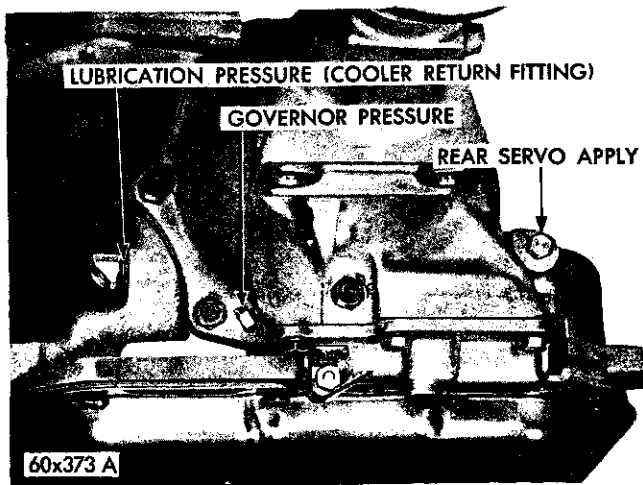

Fig. 27—Pressure Test Locations (Rear End of Case)
(1) Install a "tee" fitting between the cooler return line fitting and fitting hole in the transmission case at rear of the left side of the transmission case (Fig. 27). Connect a 0-100 psi pressure gauge, Tool C-3292 to the "tee" fitting.
(2) At 1,000 engine rpm, with the throttle closed and the transmission in direct, the lubrication pressure should be 5-15 psi. Lubrication pressure will be approximately doubled as the throttle is opened to the maximum line pressure.
(1) Connect a 0-300 psi pressure gauge, Tool C-3293 to the apply pressure take-off point at the rear servo (Fig. 27).
(2) With the transmission control in R (reverse) position and the engine speed set at 1600 rpm, the reverse servo apply pressure should be 240-280 psi.
(1) Connect a 0-100 psi pressure gauge, Tool C-3292 to the governor pressure take-off point, located at lower left side of the extension near the mounting flange (Fig. 27).
(2) Governor pressures should fall within the limits given in the "Governor Pressure Chart."